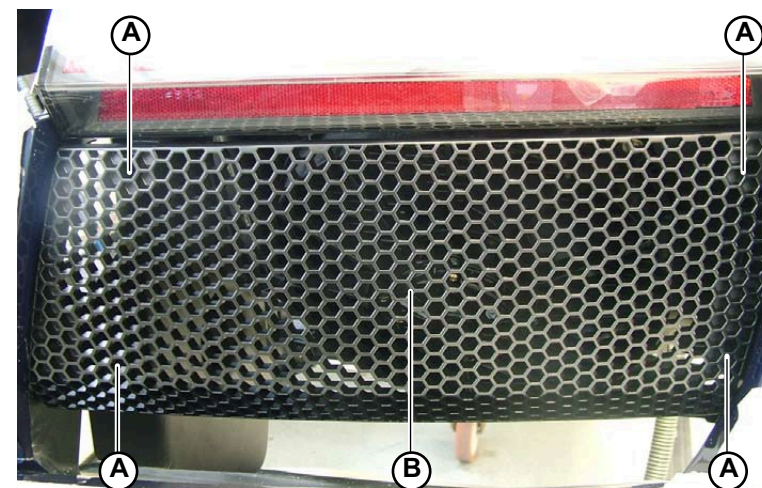

Fig.2
1. Unscrew the 4 screws (A-Fig.2) securing the rear side grids (B-Fig.2) to the body.